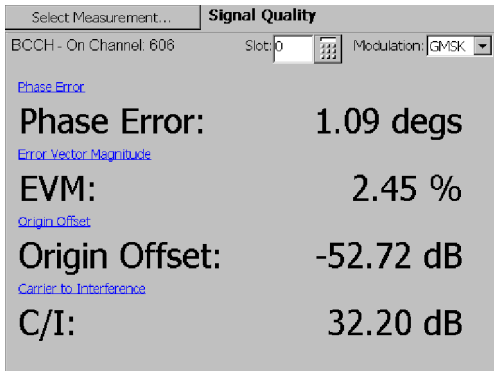

Figure 3-47: GSM/EDGE Signal Quality measurement
4. Tap **Signal Quality**. See Figure 3-47.